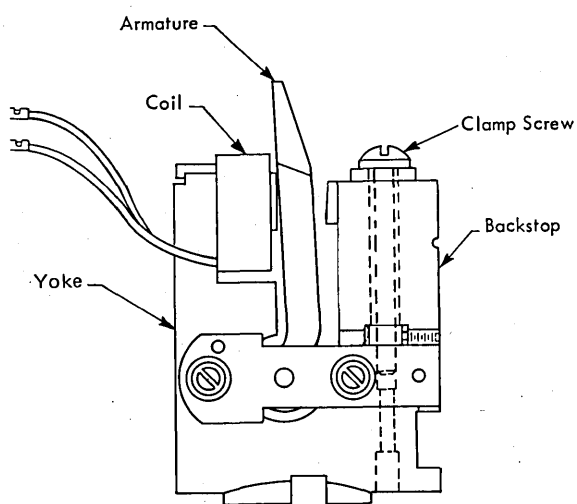

Figure 4-26. Hammer Magnet Assembly
7. If difficulty is experienced in obtaining this adjustment, replace the magnet assembly (Figure 4-26). Check for binds in the armature hammer, or pushrod. Replacement of one or more of these parts may be necessary. Reassemble the parts in reverse order.